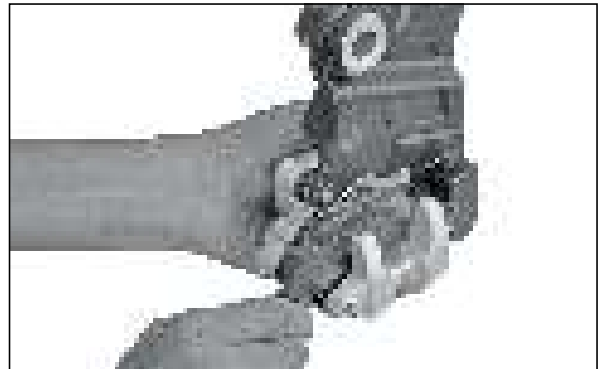

Fig. 6.121
- Take out the pad complete inner and pad complete outer. (Fig. 6.121)